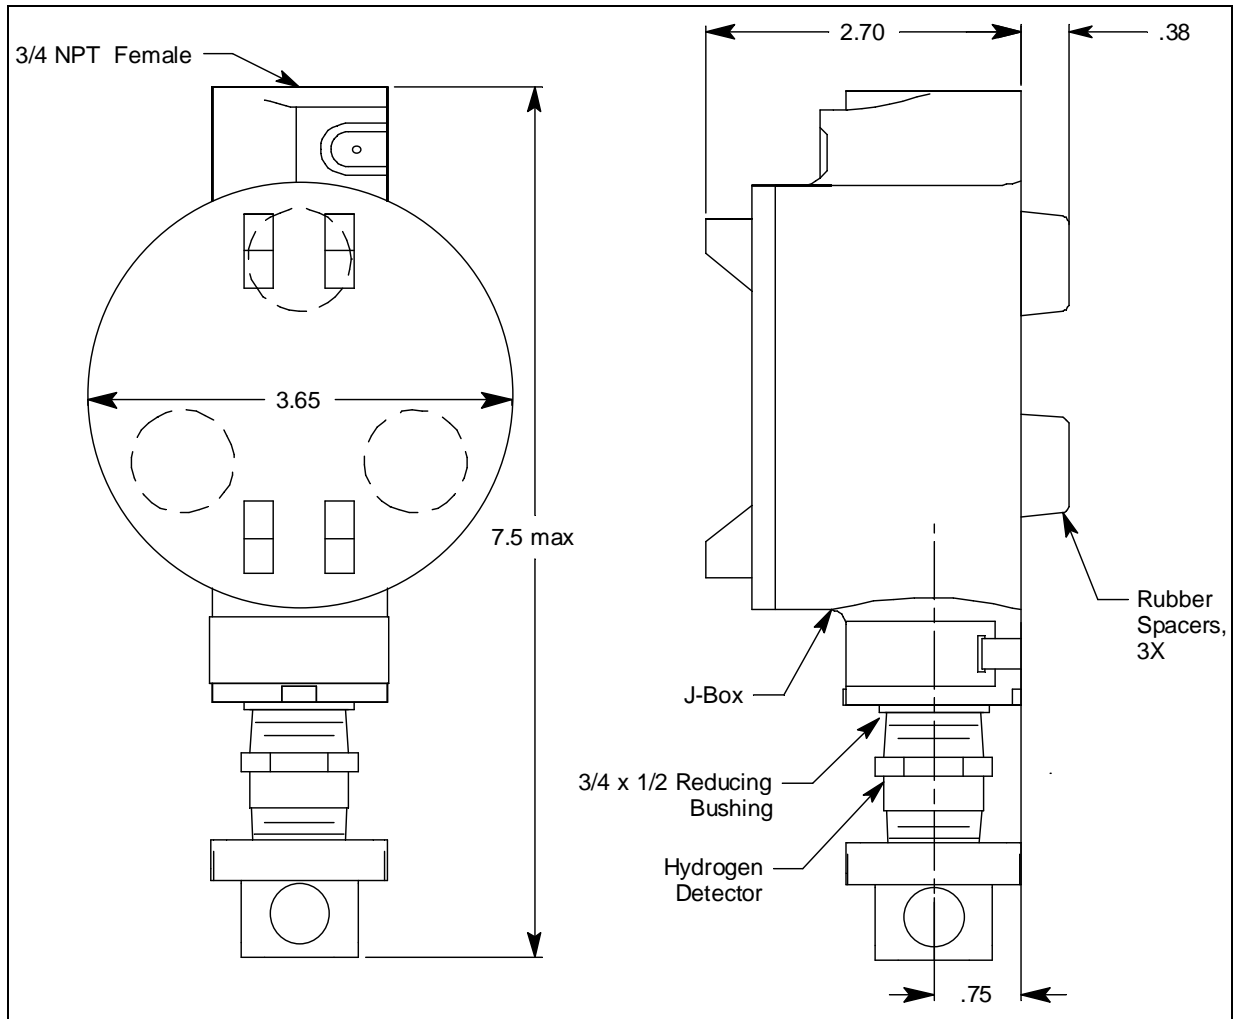

Figure 3: Mounting the PPM Hydrogen Transmitter
2. At the monitoring site you select, hang or mount the junction box with the detector facing down (see Figure 3).